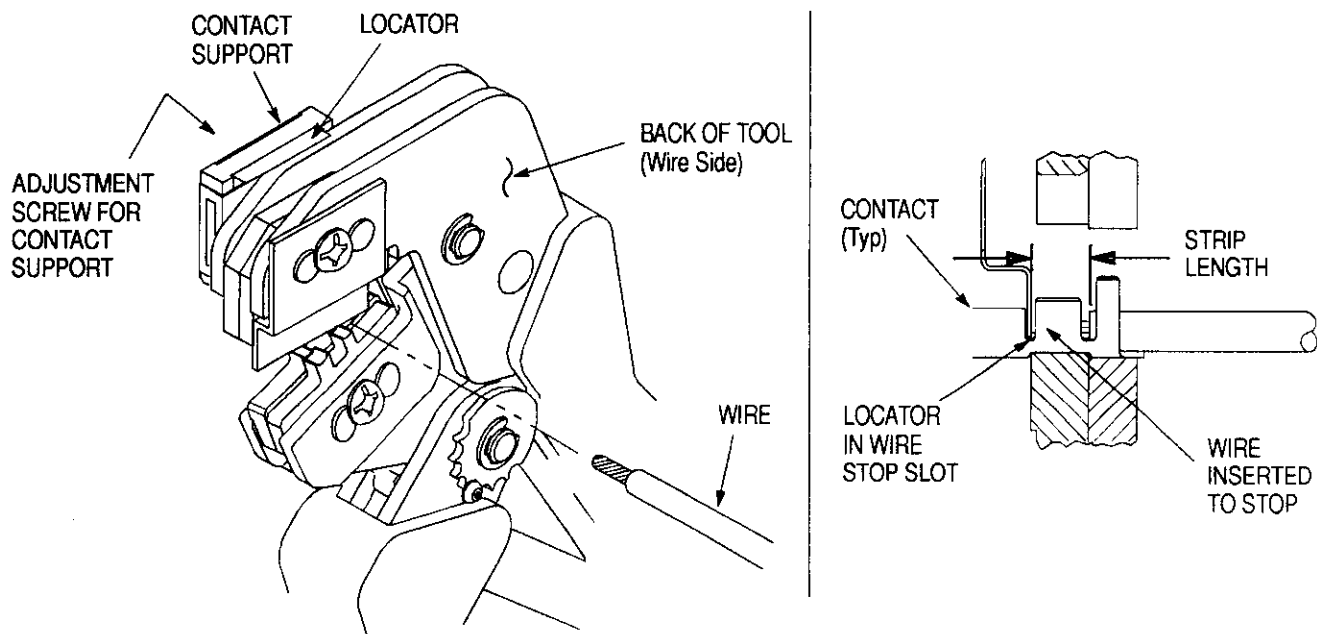

Figure 3
#### 4. CONTACT SUPPORT ADJUSTMENT (Figure 3)
Refer to the table in Figure 1 and select wire of the specified size and insulation diameter. Strip the wire to the length indicated in Figure 1, taking care not to nick or cut wire strands. Select an applicable contact and identify the appropriate crimp section according to the wire size markings on the tool. Refer to Figure 3 and proceed as follows:
3. Position the contact so that the mating end of the contact is on the locator side of the tool, and so that the open "U" of the wire and insulation barrels must face the top of the tool. Place the contact up into the nest so that the movable locator drops into the slot in the contact. Refer to Figure 3. Butt the front end of the wire barrel against the movable locator.
5. Insert stripped wire into contact insulation and wire barrels until it is butted against the wire stop, as shown in Figure 3.
*The crimped contact may stick in the crimping area, but the contact can be easily removed by pushing downward on the top of the locator (see Figure 3).*